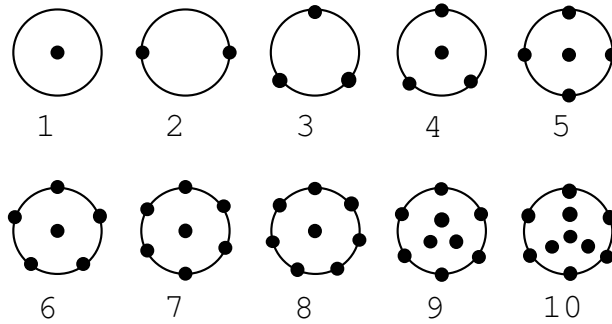

Figure 2.5: Predefined configurations for 1 through 10 sensor rays
- `numberOfRays`: number of rays cast by the sensor. If this number is larger than 1, several rays are cast and the sensor measurement value is computed from the weighted average of the individual rays activation. By using multiple rays, a more accurate model of a physical sensor is obtained. The sensor rays are distributed inside 3d-cones which opening angle can be tuned through the `aperture` parameter. Predefined ray configurations are used from 1 through 10 rays: see figure 2.5. These configurations are defined such as to obtain uniform distances between the rays and to preserve the sensor's left/right symmetry. The number of rays of a sensor must be at least one. There is no upper limit on the number of rays, however, Webots performance drops as the number of rays increases. From 11 rays the configurations are automatically arranged in several embedded cones with increasing diameters. The rays capacity of each cone is defined as  $C(i)=3*i+1$ , where  $i$  is the cone number starting with 0. Each time a cone's maximal capacity is reached a new cone is added containing a single ray and the other cone are resized such as to fit within the defined aperture angle.